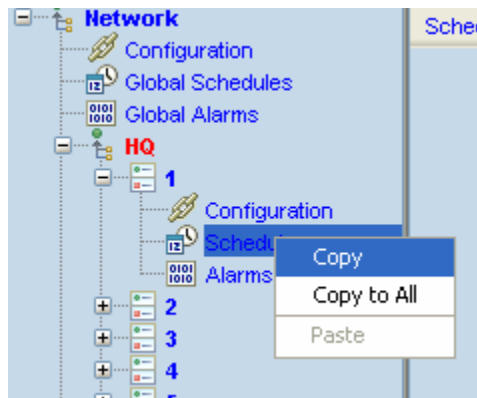

Figure 5 – Schedules Node Menu
- 3) As an individual schedule under an Attached Device Node for which the following menu has been defined (refer to Figure 5):
The following menu has been defined for both the individual as well as the group alarms (refer to Figure 5):